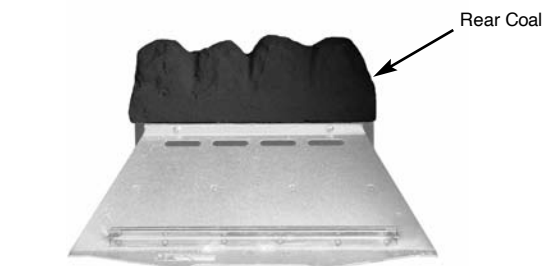

Fig. 17
1. Place the rear coal on the rear coal retainer ledge in a central position (Fig. 17).